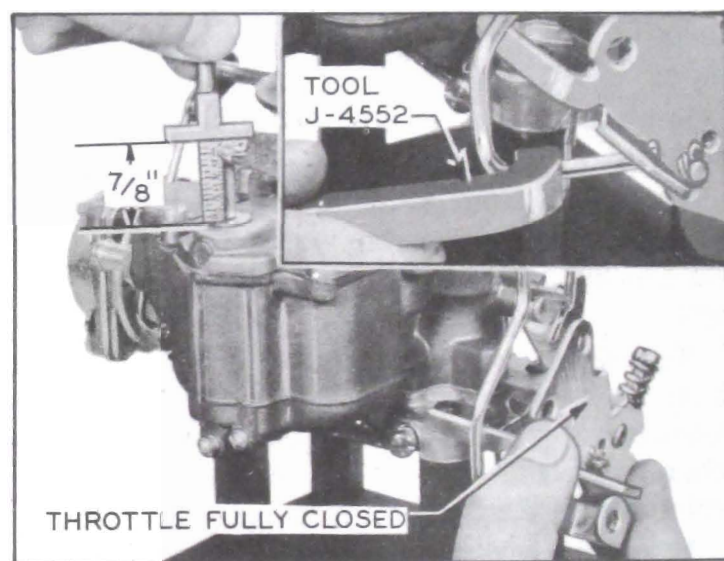

Figure 3-74—Accelerator Pump Adjustment
15. Install air horn screws. Make sure lower end of pump rod is in medium stroke hole. Back out throttle stop screw and completely close the throttle valves. Then measure vertically from upperside of pump plunger offset to air horn casting. Bend pump rod as required to obtain $\frac{7}{8}$ " measurement using Tool J-4552. Then open throttle wide; pump arm must clear air horn at least $\frac{1}{32}$ ". See figure 3-74.